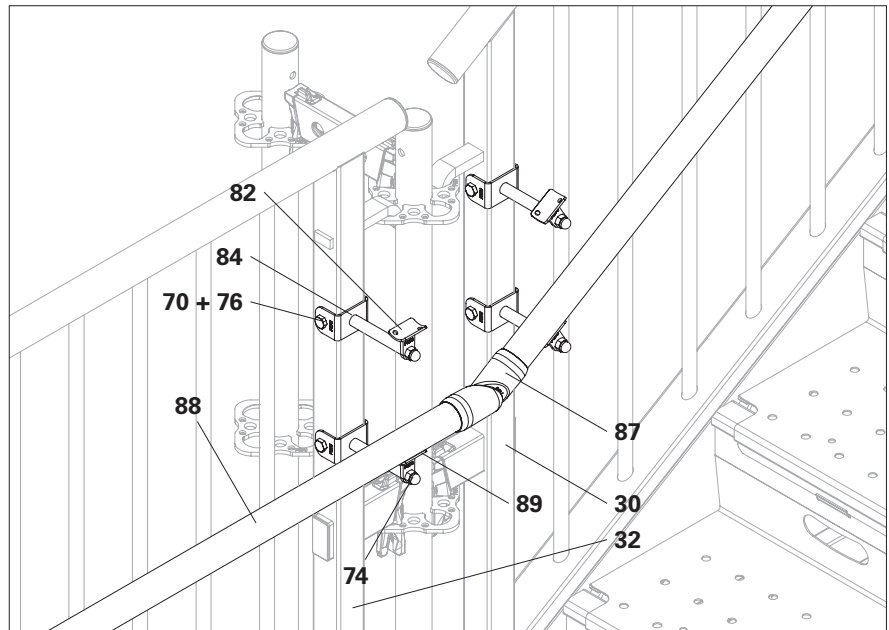

Fig. D2.03
1. Screw additional Handrail Supports PESG (84) with Handrail Bracket sym PEBS (82) to the frame of Guardrail PPG (30 / 32).
2. Attach the cut-to-size Handrail Tube PEHT (88) with Handrail Joint PEHJ (87) to the previous handrail tube, align and place on the handrail bracket.
3. Rivet the handrail tube (88) to the handrail bracket (82) using a 6.0x10 steel rivet (89).
4. Screw the nut (74) tightly onto the handrail support.
5. Repeat steps 1-4 until the upper handrail start is reached. (Fig. D2.03)